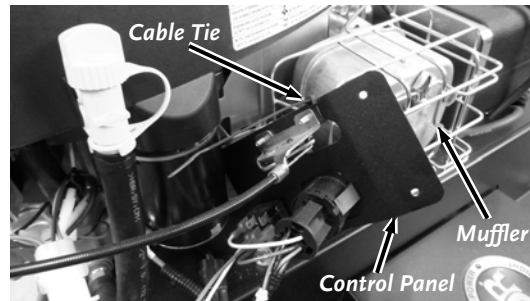

Figure 15
15. Cut the Cable Tie that is securing the Control Panel to the Muffler Guard using Wire Cutters (**Figure 15**).